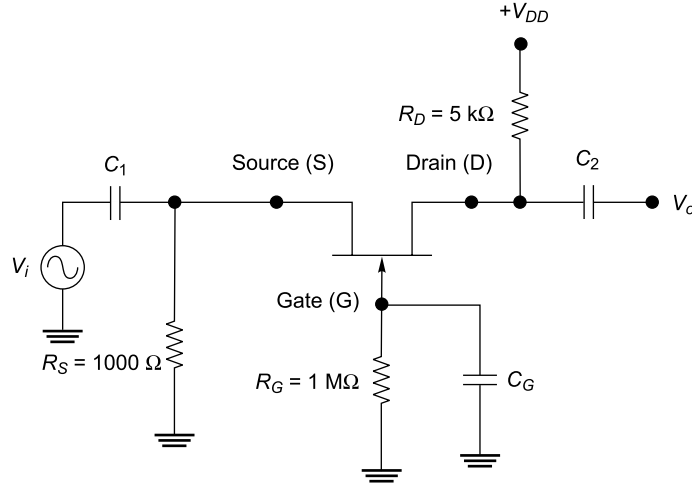

Fig. 1.85
1.18 Figure 1.85 shows a common gate JFET amplifier circuit. Determine the voltage gain input resistance and output resistance of the amplifier. Assume $g_m = 4000 \mu S$ and $r_d = 50 k\Omega$.